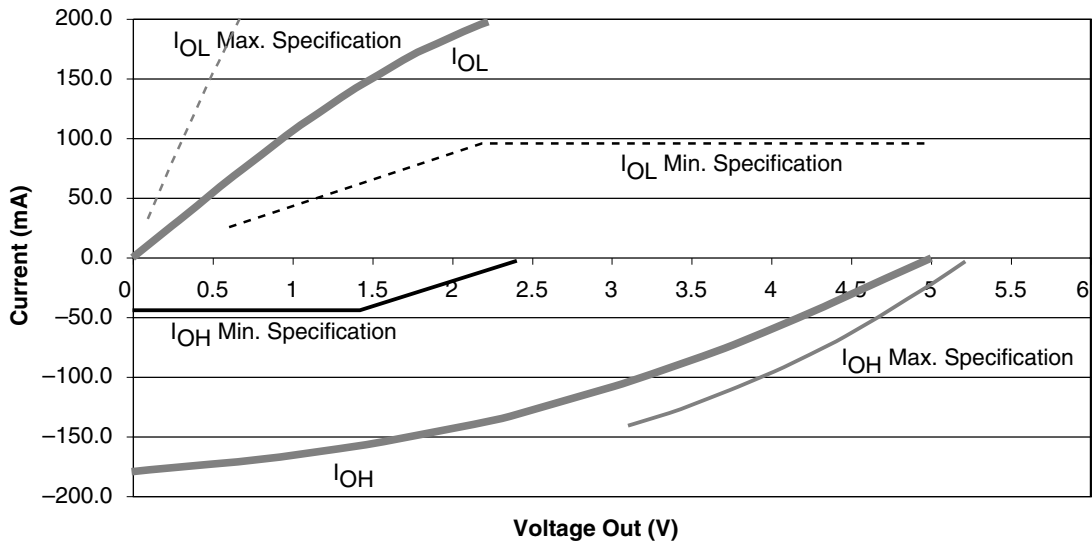

Figure 2-7 • 5V PCI V/I Curve for RTSX-SU
1. Refer to the V_II curves in Figure 2-7 on page 2-16. Switching current characteristics for REQ# and GNT# are permitted to be one half of that specified here; i.e., half size output drivers may be used on these signals. This specification does not apply to CLK and RST#, which are system outputs. The "Switching Current High" specification is not relevant to SERR#, INTA#, INTB#, INTC#, and INTD#, which are open drain outputs.
3. Maximum current requirements must be met as drivers pull beyond the last step voltage. Equations defining these maximums (A and B) are provided with the respective curves in Figure 2-7 on page 2-16. The equation defined maximum should be met by the design. In order to facilitate component testing, a maximum current test point is defined for each side of the output driver.